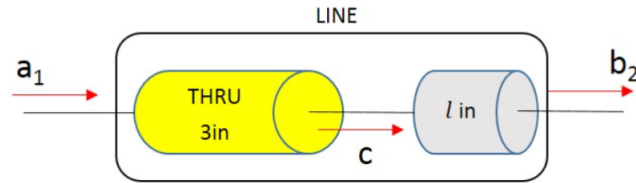

Figure 3: LINE standard break-down equivalent circuit
3. Give the S-parameters of LINE (S_{LINE}) and THRU (S_{THRU}), write the formula that calculates the relative phase between them (HINT: In Figure 3, $\frac{b_2}{c}$ could give the relative phase between LINE and THRU).